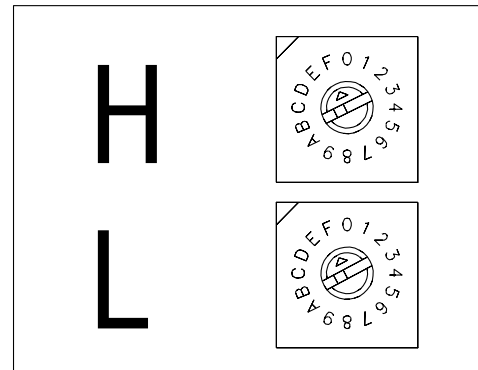

Figure 34: Address Switch Settings – Diagnostic Mode
4. Use a small flathead screwdriver to move both H and L address switches to the "F" position (**Figure 34**). This will set the scoreboard driver to Diagnostics Mode.